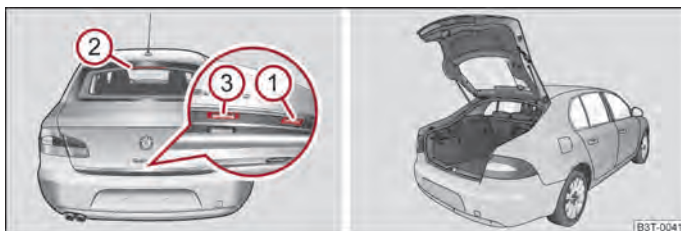

Fig. 18 Handle of boot lid/opened large boot lid
- Press the handle ① ⇒ fig. 18 on the bottom edge of the boot lid.
- You must wait until the brake light ② in the rear window flashes twice.
- Press on the handle ③ and at the same time raise the boot lid.
After unlocking the vehicle with the remote control key or the key ⇒ page 38, Emergency unlocking and locking of the driver's door you can open the large boot lid ⇒ fig. 18.